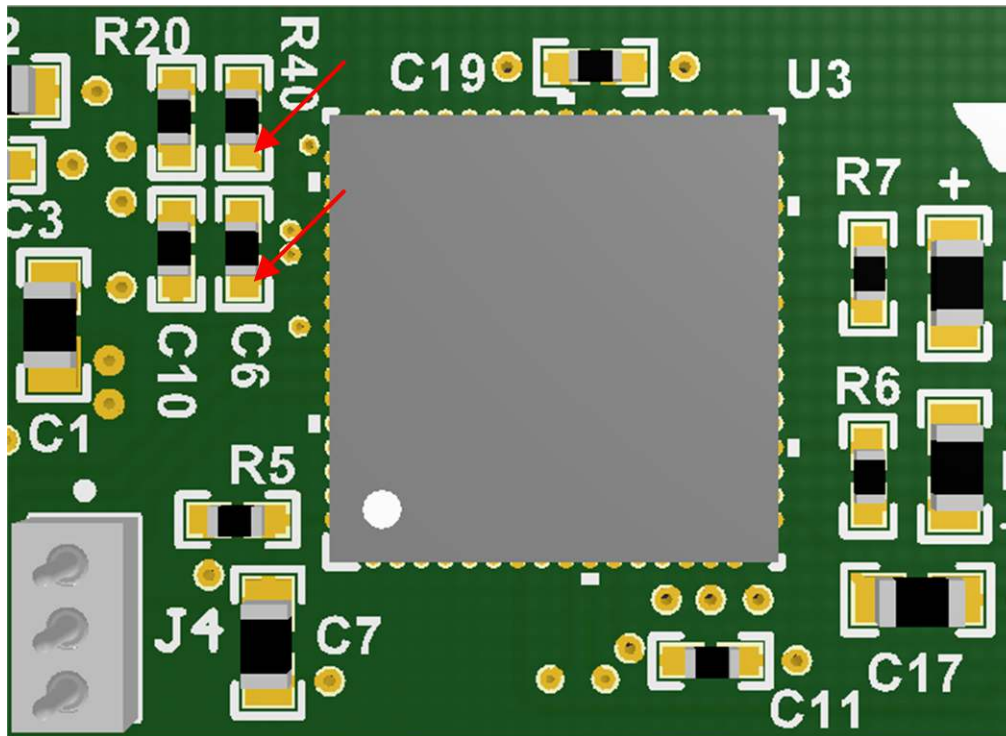

Figure 5-2. Short a Wire at These Locations
1. Short the two points as shown in Figure 5-2.